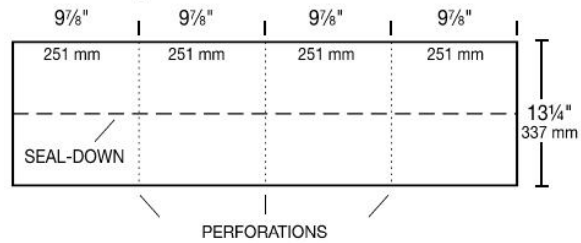
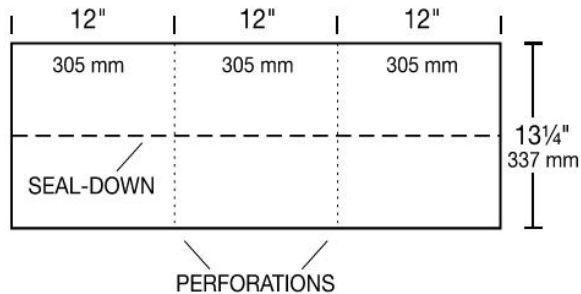

Figure 17 - 10" RidgeFlex™ Hip and Ridge Shingle
Figure 18 - 12" RidgeFlex™ Hip and Ridge Shingle
Prepare for application by separating each hip and ridge shingle at the perforations: The 10" RidgeFlex™ produces four (4) individual hip and ridge strips (see Figure 17), and the 12" RidgeFlex™ produces three (3) (see Figure 18). Note the seal-down strips.